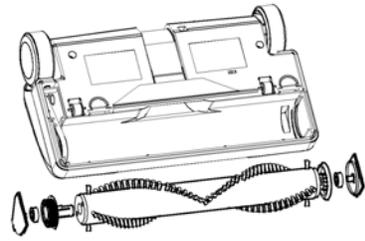

Figure 8.
3. Remove and clean the bearing shaft from the brush roller ends. Notice the bearing shafts are not symmetrical. The slanted one belongs to the Brush gear (cogged belt side, as shown in Figure 8).